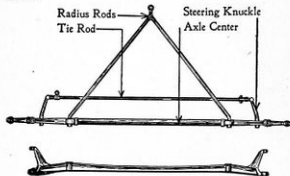

Figure 35.—The Front Axle and Radius Rods.
*Front Axle.*—The appearance of the front end of the top of the Ford front axle is shown in Figure 35. The center section is a steel forging of I-beam section, this shape providing great strength with light weight. The front axle of the automobile, unlike that